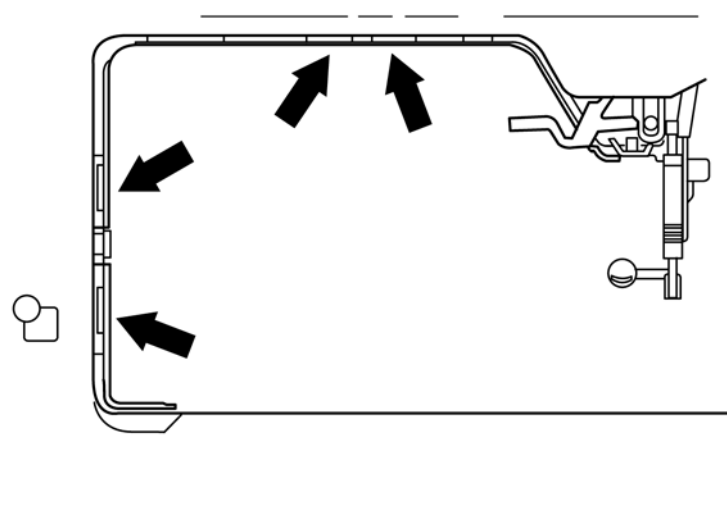

Fig. 11
- Open the catch connections on the inside of the arm by pressing with your thumb against the points indicated by the arrows (fig. 11).